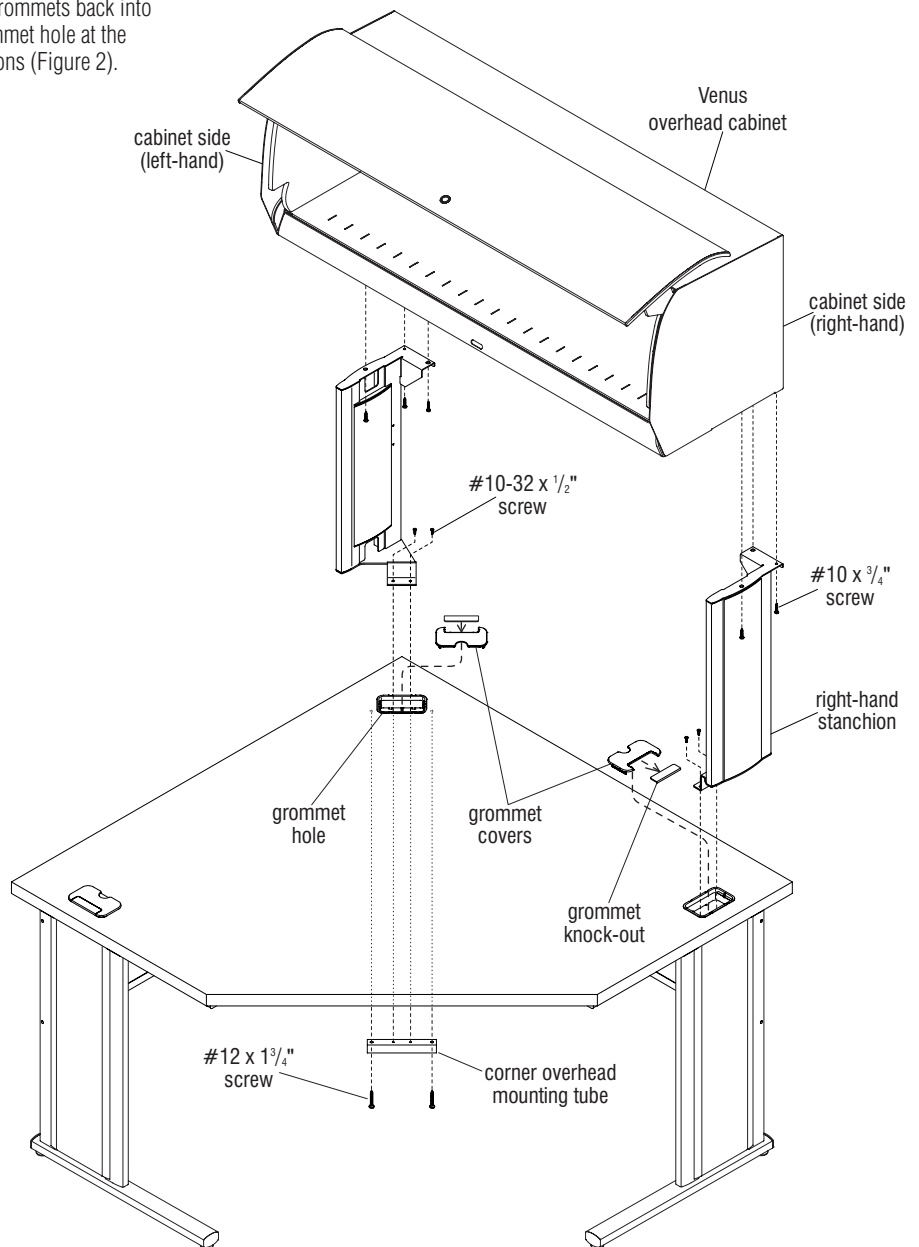

Figure 2
1. Begin by removing grommet covers from the back corner, and back side at the top of the corner desk where the overhead cabinet will install (Figure 2).
2. At the rear corner, from underneath the worksurface, position the corner overhead mounting tube as illustrated and align to pre-drilled holes. Install using two #12 x 1³/₄" screws (Figure 2).
3. Reference Figure 2 below to identify the corner stanchion (left-hand) and the right-hand stanchion, as well as the left- and right-hand cabinet sides (Figure 2).
4. Position the corner stanchion (left-hand) as illustrated such that the lower mounting bracket of the stanchion inserts into the grommet hole. Align the mounting holes in the bracket with the holes in the installed corner overhead mounting tube. Secure stanchion bracket to corner overhead mounting tube using two #10-32 x 1¹/₂" screws (Figure 2).
5. Position the right-hand stanchion with the bracket through the grommet hole, aligning the mounting holes in the bracket with the mounting holes in the top of the right-hand leg. Secure bracket to leg using two #10-32 x 1¹/₂" screws (Figure 2).
three #10 x 3³/₄" screws at each side (Figure 2).
7. Take grommets removed in step one and remove the knock-outs from each. Snap the grommets back into place in the grommet hole at the installed stanchions (Figure 2).